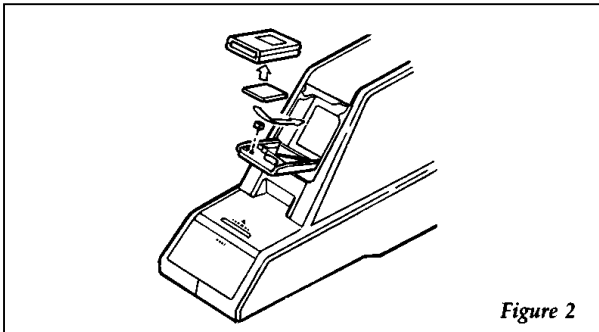

Figure 2
4. Install your transmitter into the compartment, making sure the actuator button of your transmitter is in line with one of the pegs on the door when the door is closed (Figure 2).